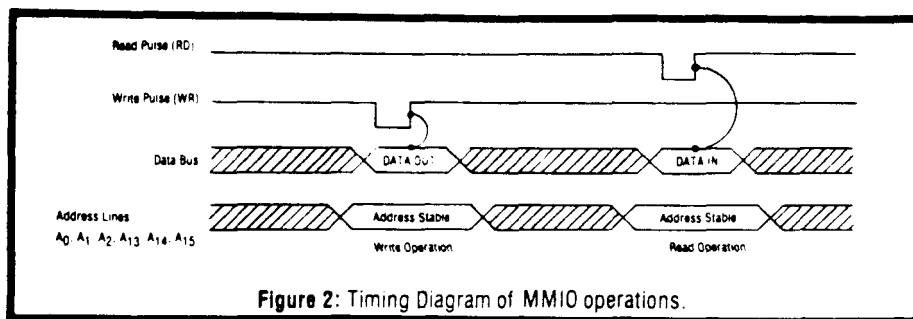

Figure 2: Timing Diagram of MMIO operations.
Two 74LS138s (IC3 and IC4) generate 8 input and 8 output transfer pulses by decoding the ZX81's 3 lowest order address lines AO, A1, and A2. Address lines AO, A1, and A2 are connected to pins 1, 2, and 3 respectively of the 74LS138s and pins 5 and 6 of the 74LS138s additionally decode the address bus by detecting when the 8192(D) to 16383(D) memory space is being accessed. Timing of the transfer pulses is accomplished via a memory write (WR) signal and a memory read (RD) signal connected to pins 4 of ICs 3 and 4 respectively. Figure 2 shows the timing diagrams of the MMIO operations.